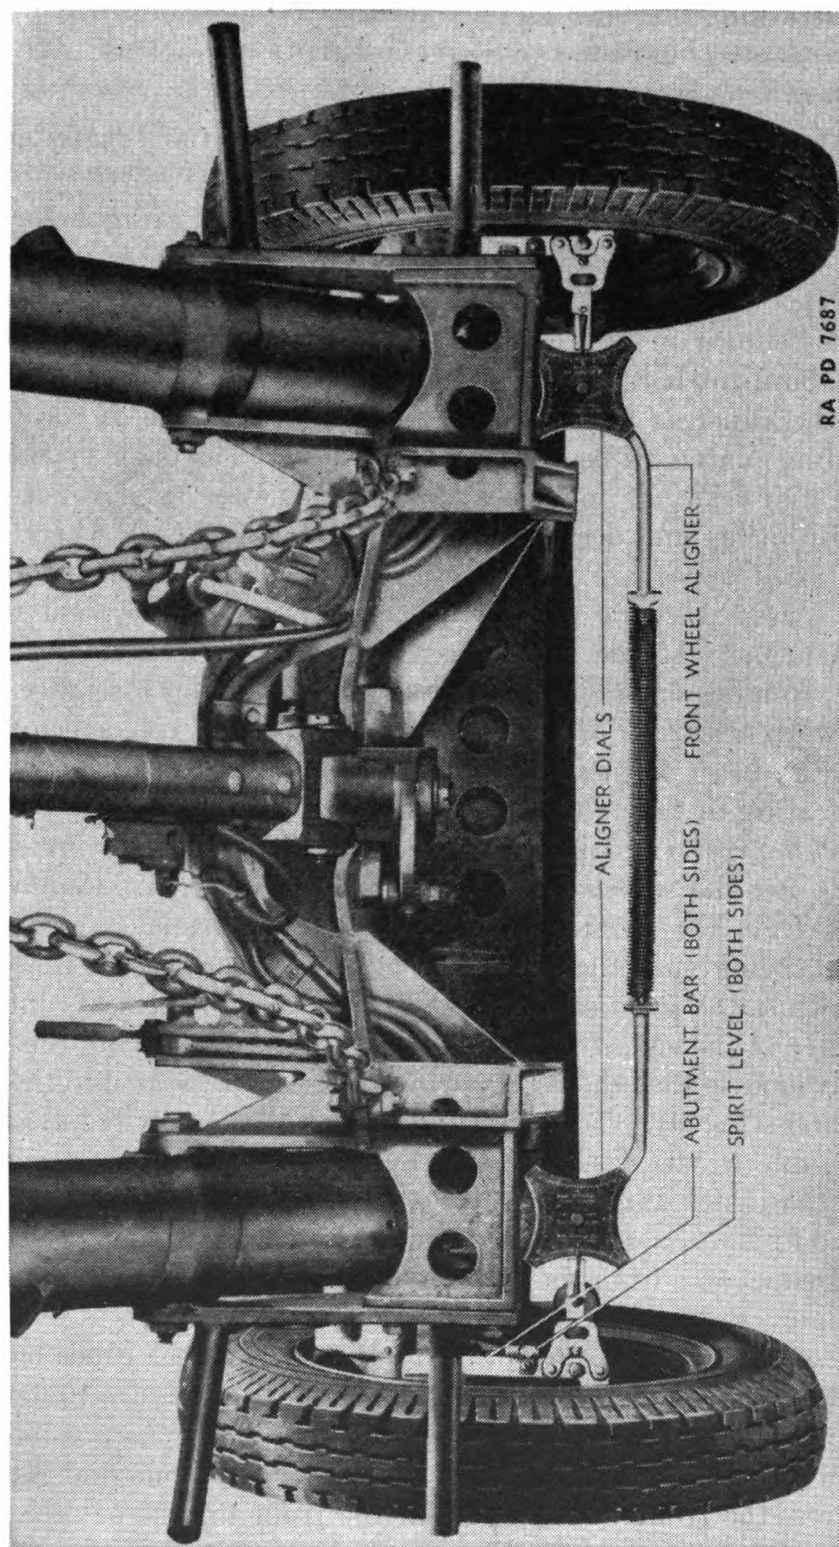

FIGURE 7.—Front wheel camber.
*c. Checking alinement.*—Set the front wheels in straight forward position, with the drawbar in a direct line with the center of the carriage. Place the wheel aliner between the front wheels in a vertical position as shown in figure 7. Check with a spirit level and make sure the abutment bars are both perfectly level. Care must be taken to force the aliner as far as possible into the curvature of the wheel. Dial readings may now be taken at each wheel. The older type aliner will give dial readings in inches only. The newer type aliner gives readings in inches and degrees, showing the pitch of each wheel. The dials on both types are graduated to accommodate various wheel diameter sizes. Use the dials which most nearly correspond to the wheel diameter. If the pitch is greater than  $2^{\circ}$ , check for worn bushings, spindles or other worn parts in the steering assembly. Replacing worn bushings or spindles is the only way to correct faulty camber. A direct adjustment cannot be made because camber is a built-in feature of the axle.